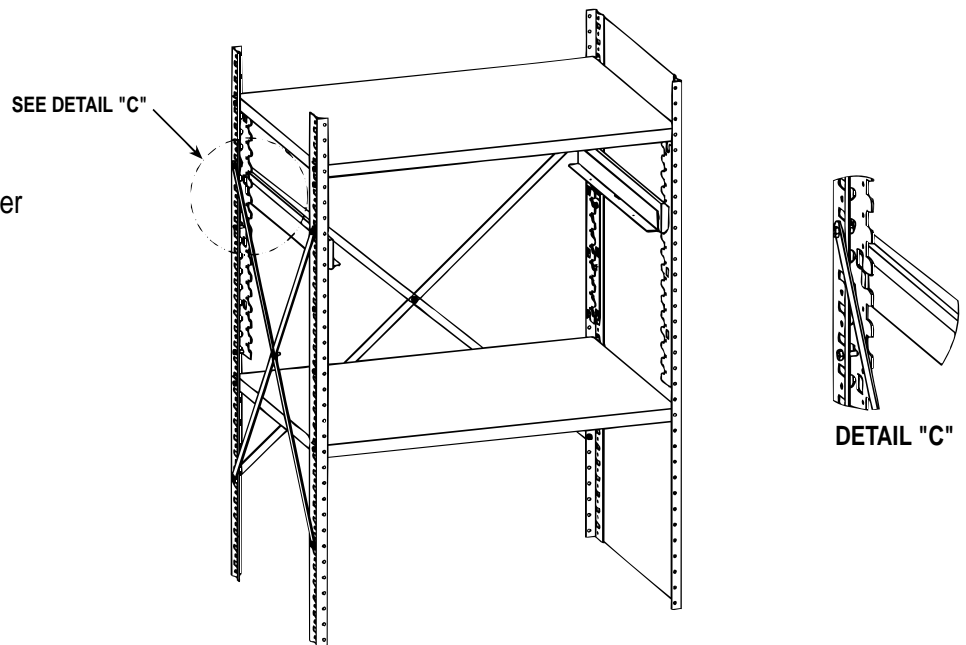

FIGURE 4.2
3. Push the tab on the front of the drawer slide over the notched section of the mounting upright. (See Figure 4.2)